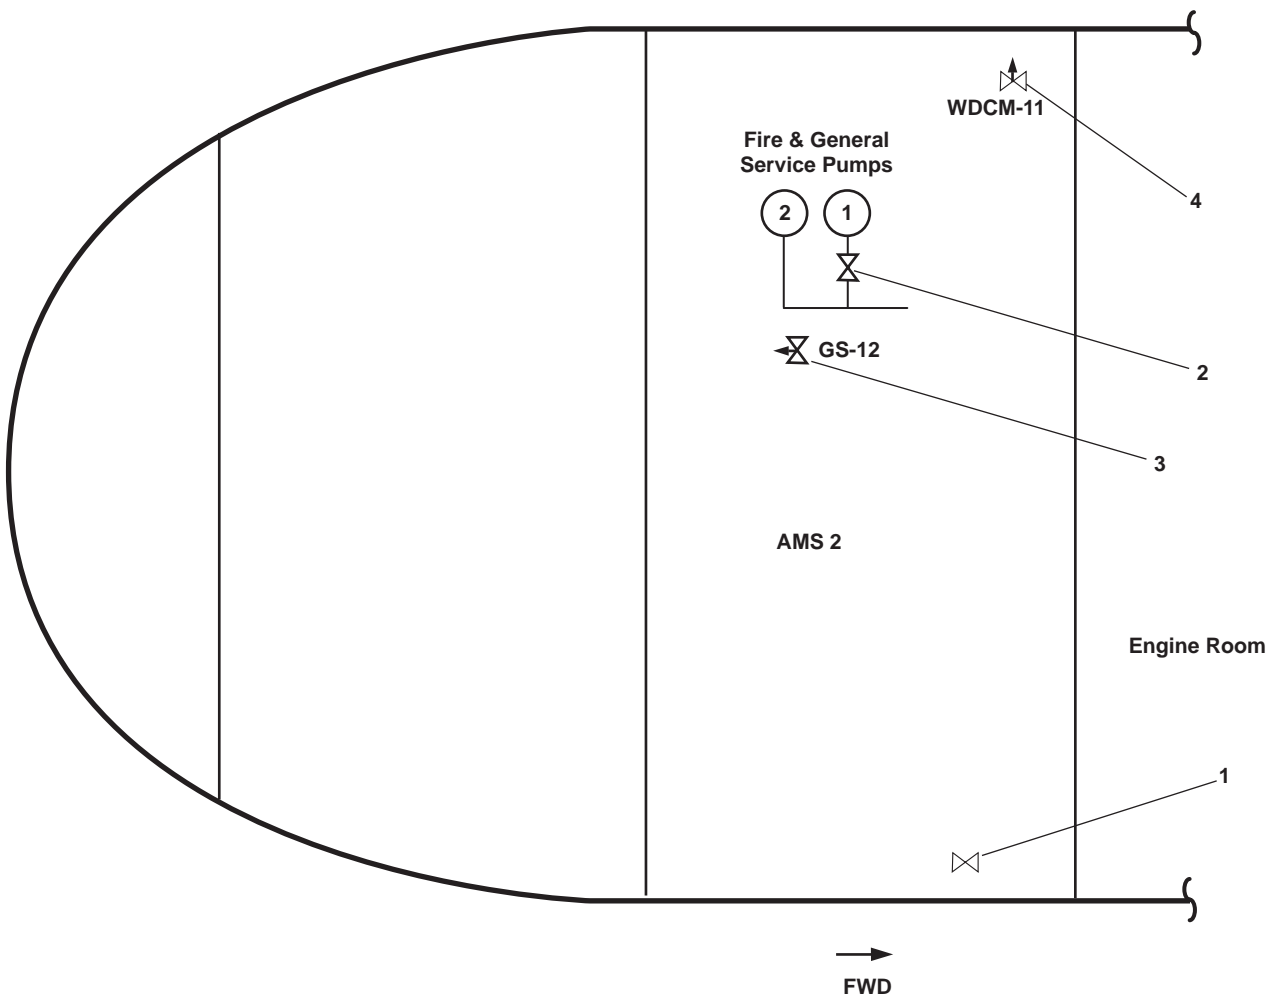

Figure 8. General Service Valves
- (13) GS-32, GS OVBD DISCH (figure 8, item 1), located in AMS 2 on the starboard side by the steering hydraulic pumps.
- (14) GS-12, GENL SERV PRESS RED VLV CO (figure 8, item 2), general service pressure reducer outlet valve.
- (15) FM-91, FIRE/G.S. PUMP No. 1 SUCT. located near GS-12 (figure 8, item 3) in the overhead.